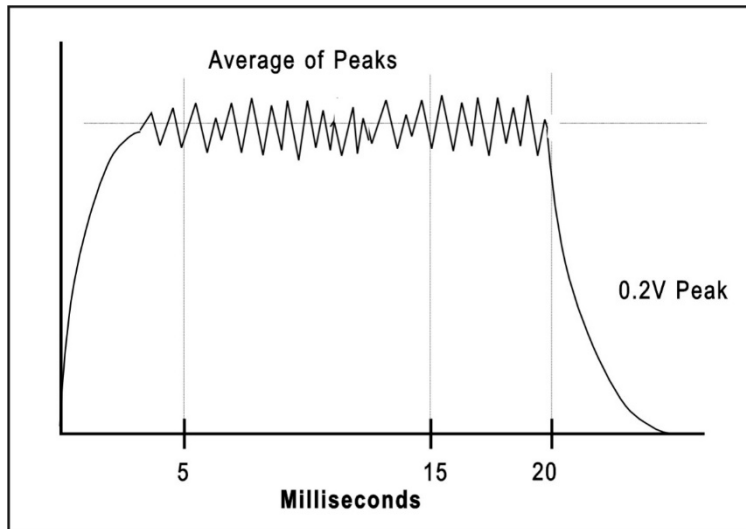

Figure 3
4. Fire the HF2 repeatedly. Ignoring the first 5ms of the waveform shown in Figure 3, measure the next 10ms of the waveform with the oscilloscope. Adjust the hall sensor gain potentiometer for a 0.2V peak \pm 4mV, reading.
3. Fire the HF2 repeatedly. Ignoring the first 5ms of the waveform shown in Figure 3, measure the next 10ms of the waveform with the oscilloscope. Verify an average reading of 0.20V peak \pm 0.004V for IT-X3A Transformers or +0.010/-0.008 V for IT-X11A Transformers.